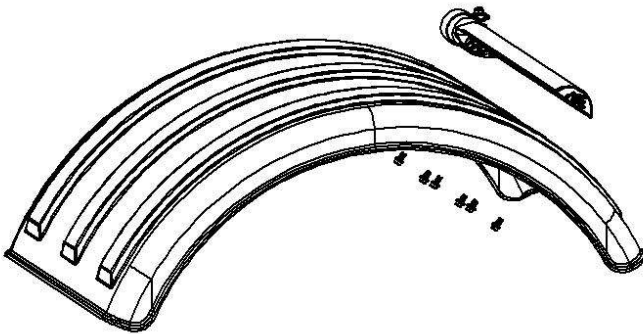

Figure 19
- a. With the bracket separated from the truck, install six 5/16" x 5/8" bolts and fender washers through the fender and into the bracket. **Turn each bolt approximately 2 full turns. Do not fully tighten.** See Figure 19 below.